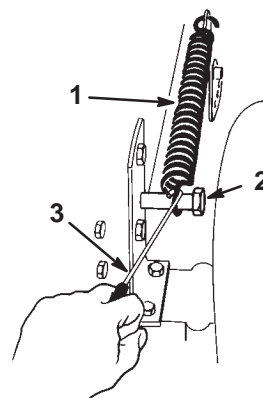

Figure 37
8. Remove the height-of-cut lift assist spring from the retaining bolt (Fig. 37) using the spring tool provided with the tractor.
22. Move the height-of-cut lever into the “D” notch. Hook the lift assist spring onto the retaining bolt for storage (Fig. 37).